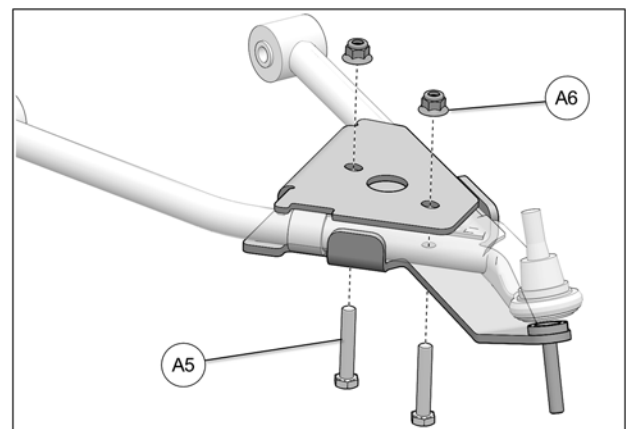

Fig. 18
7. Insert the M10x55 mm bolts (A5) through the bottom and secure the two parts together with the nuts (A6) provided. Tighten assembly to 50 N•m [37 lb•ft] of torque. See Fig. 18